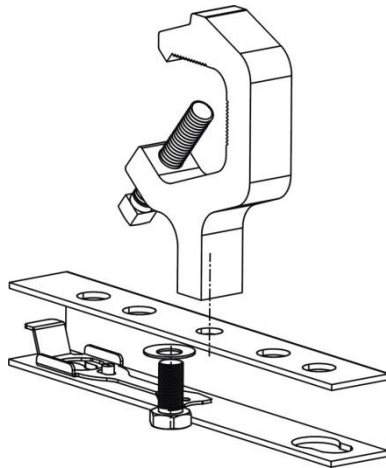

Figure A-5: Truss Hook Installation
Step 1. Install truss hooks on two provided truss hook brackets as required as shown in Figure A-5.